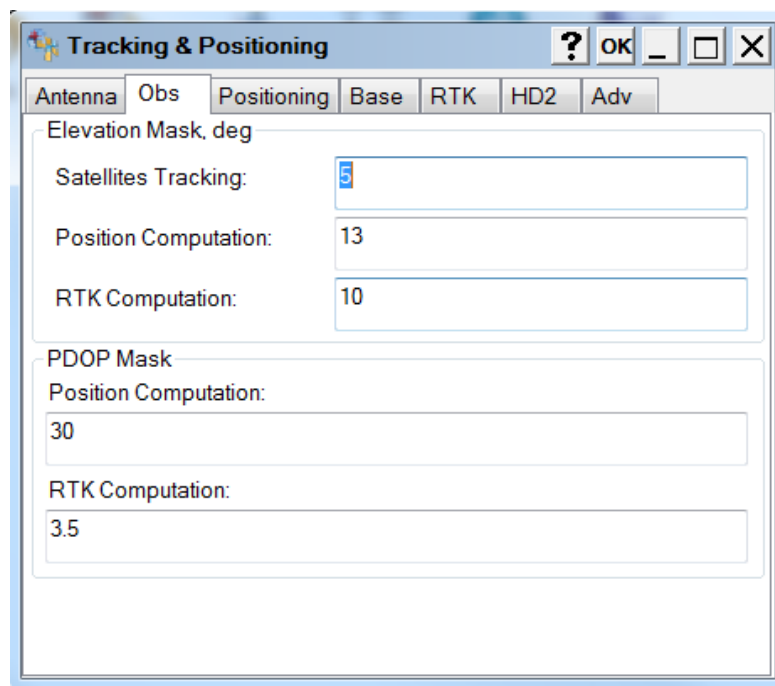

Figure 28: Configure Receiver Positioning – Elevation Mask
4. Click the **Obs** tab, and set the following parameters (Figure 28):